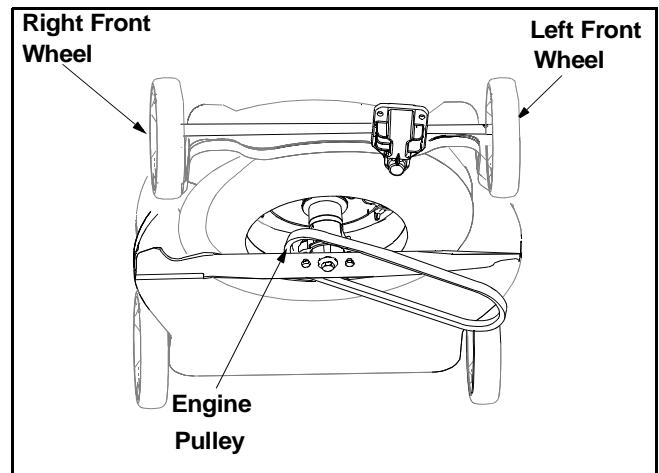

Figure 15
- Slide the belt off the engine pulley and around the blade. See Figure 15 .